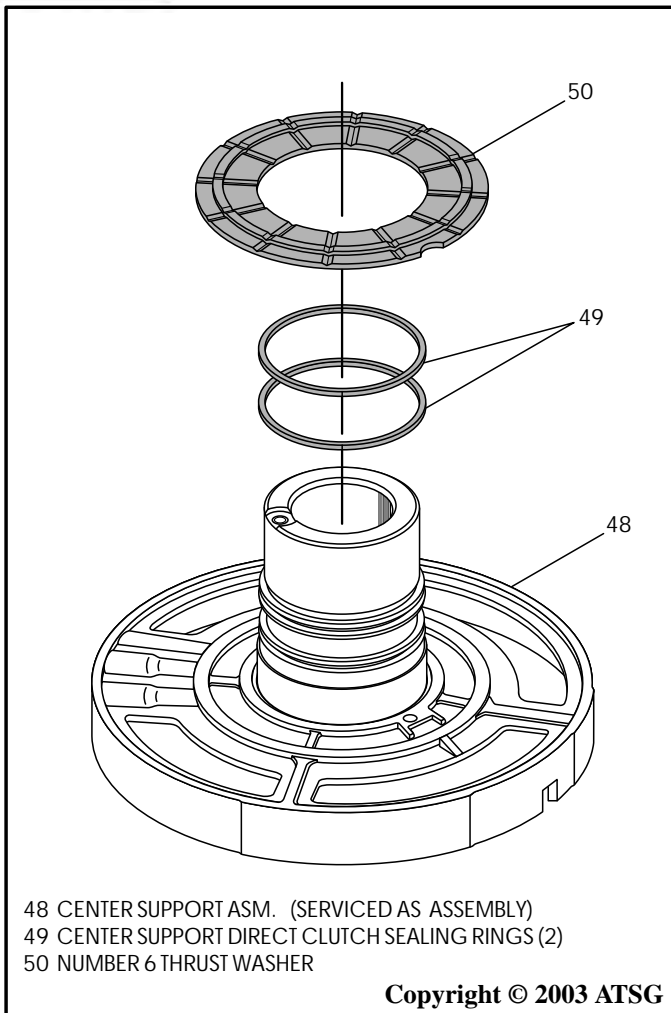

Figure 134
8. Turn the center support over and install new sealing rings into the grooves in center support hub, as shown in Figure 134.
10. Install the number 6 thrust washer onto center support, as shown in Figure 134, and retain with Trans-Jel®.